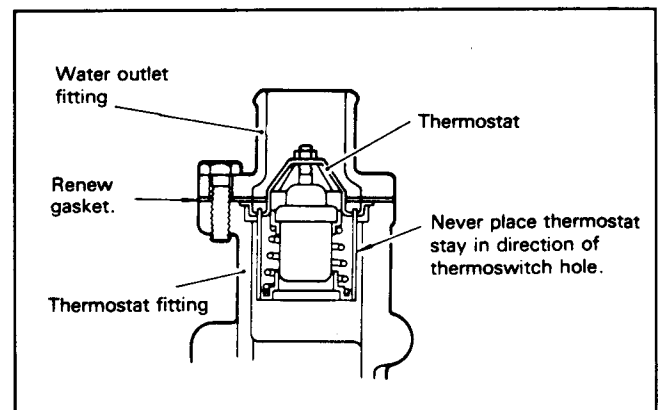

Figure 31
3. Remove the water outlet fitting and gasket (Fig. 31).